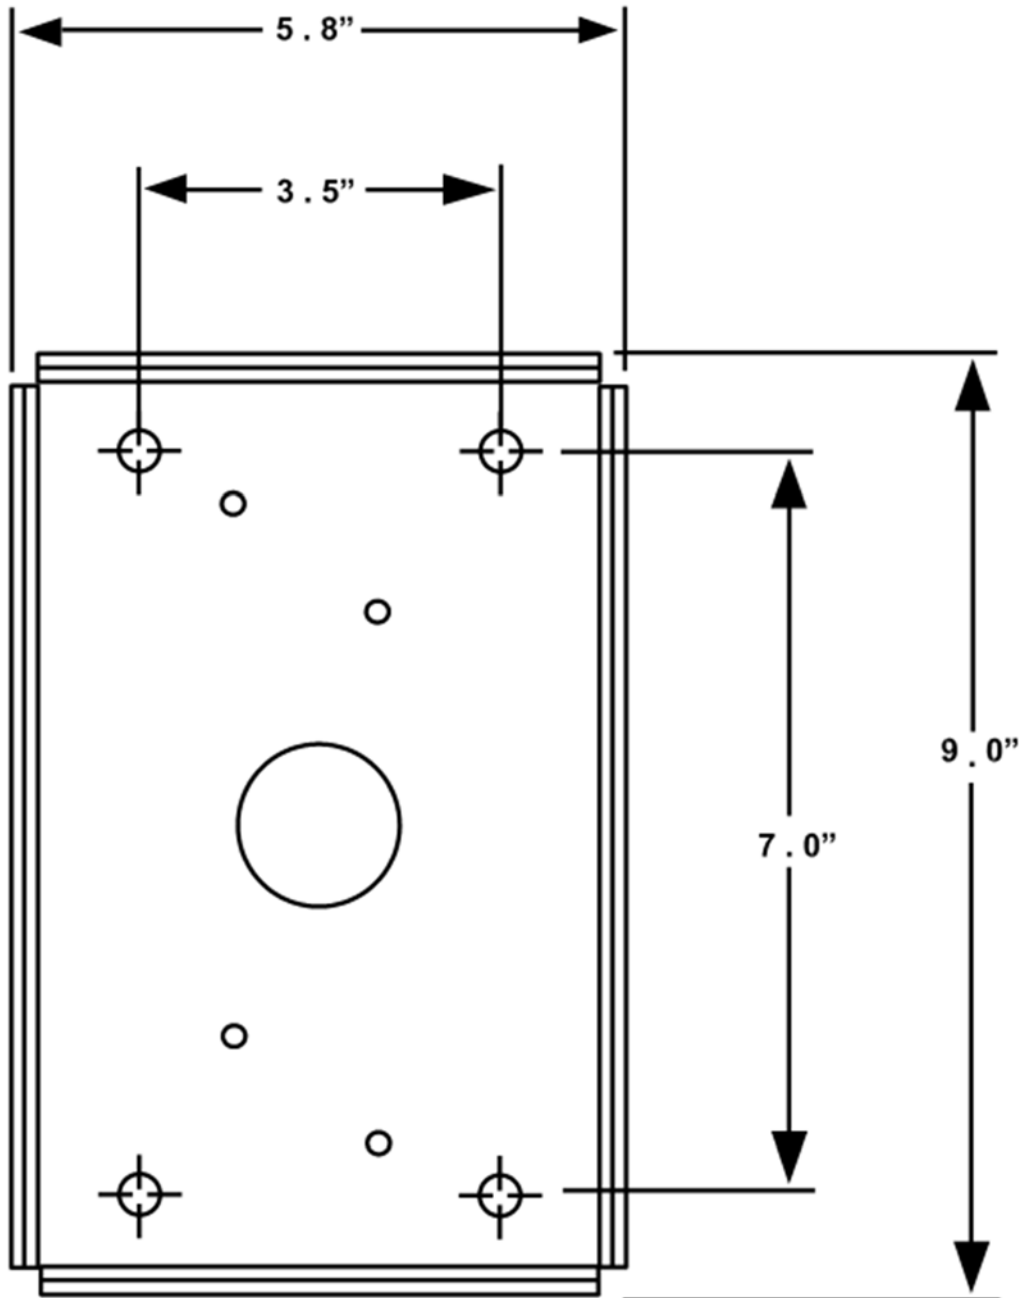

Figure 1 – L1 PowerPost™ EVSE Footprint & Mounting Hole Locations
- ✓ Four concrete anchors with tensile strength of 450 lbs or more. (See Figure 1 for spacing)